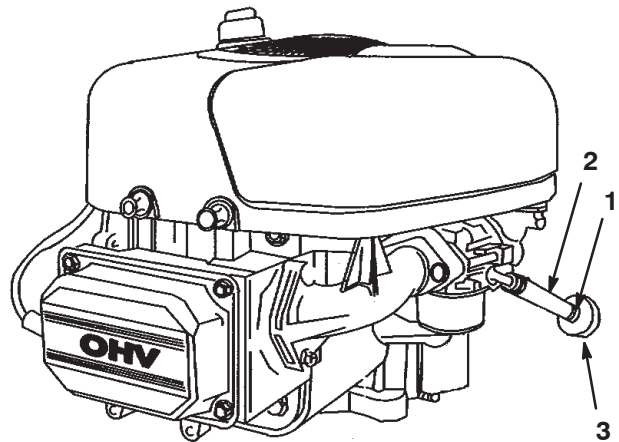

Figure 28
7. Loosen the hose clamp at the fuel filter and slide it up the fuel line away from the fuel filter (Fig. 28).
8. Pull the fuel line off the fuel filter (Fig. 28).
11. Slide the hose clamp close to the fuel filter to secure the fuel line (Fig. 28).
Replace the fuel filter after every 100 operating hours or yearly, whichever occurs first. The best time to replace the fuel filter (Fig. 28) is when the fuel tank is empty. Never install a dirty fuel filter after it has been removed from the fuel line.
7. Squeeze the ends of the hose clamps together and slide them away from the old fuel filter (Fig. 28).